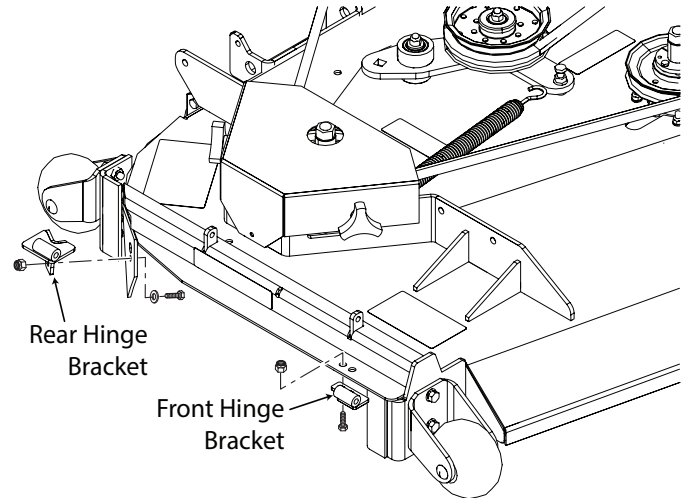

Figure 3-44. Hinge Weldment Installation
7. Install the rear hinge bracket to the cutter deck using one (1) 5/16-18 x 1" bolt, one (1) 5/16" flatwasher and one (1) 5/16-18 elastic stop nut. Do not tighten the hardware. See Figure 3-44.
16. Install the front hinge bracket to the cutter deck using two (2) 5/16-18 x 3/4" bolts and two (2) 5/16-18 elastic stop nuts. See Figure 3-44, Page 29. Do not tighten the hardware.